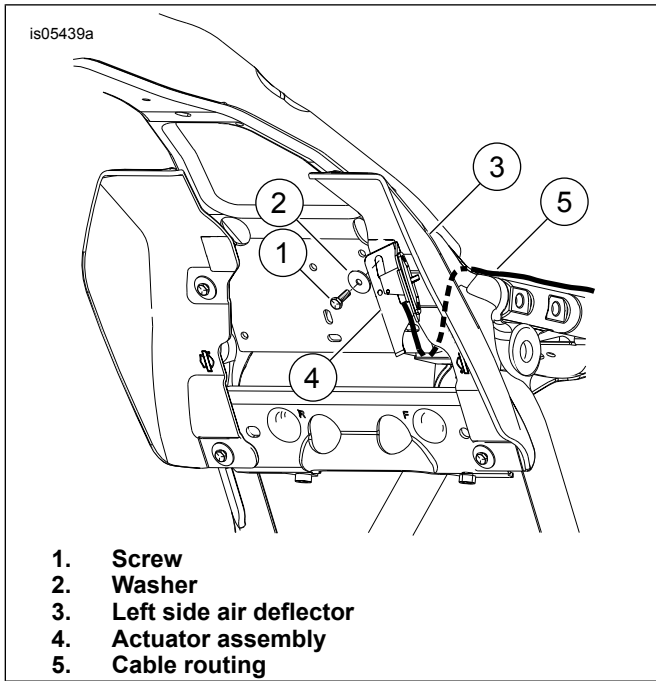

Figure 5. Installing Actuator Assembly with Mid-Frame Air Deflector
3. See Figure 5. Pull plastic spark plug wire clip out of the hole in the frame plate at the location where the adjustment handle bracket is going to mount. Discard plastic hose clip.
8. Figure 5 Verify that the backrest adjustment cable is not connected to the mounting bracket. Starting at the actuator assembly end, route the backrest cable under the cross-member plate and up through the frame (5).
- Figure 5 Slide the flat side of the actuator assembly (4) bracket behind the wires and align the deflector upper mounting hole with slot in adjustment handle bracket. Make sure the hook/bent tab of the bracket engages the edge of the cross-member plate. When aligned, insert and tighten screw and washer.